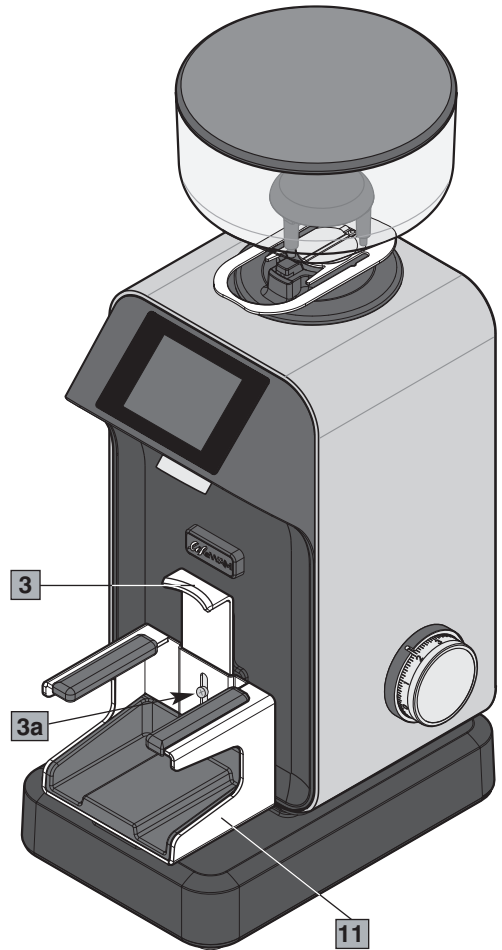

Fig. 5
### Main parts (Fig. 1, Fig. 2, Fig. 3, Fig. 4, Fig. 5, Fig. 6)
- 3 Depending on the model, position the filter-holder on the fork (2 Fig. 1) or over the load cell (11 Fig. 5) blocking it under the support (3 Fig. 1 - 3 Fig. 5) adjusted beforehand according to the model of filter-holder used.